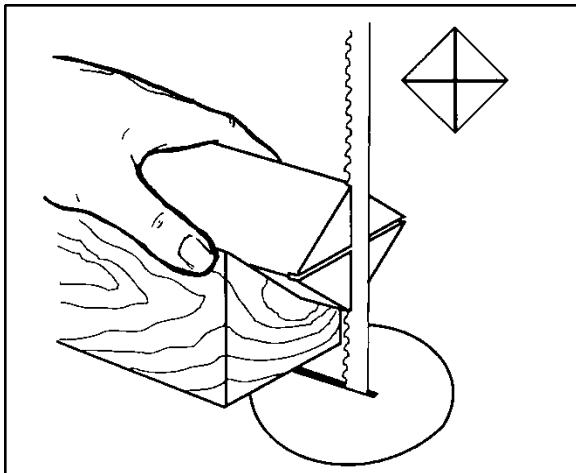

Figure 10-3
2. Extremely hard woods may require kerfs cut into the ends of the stock (Figure 10-3) using a band saw, so the wood will accept the spur center and the live center.